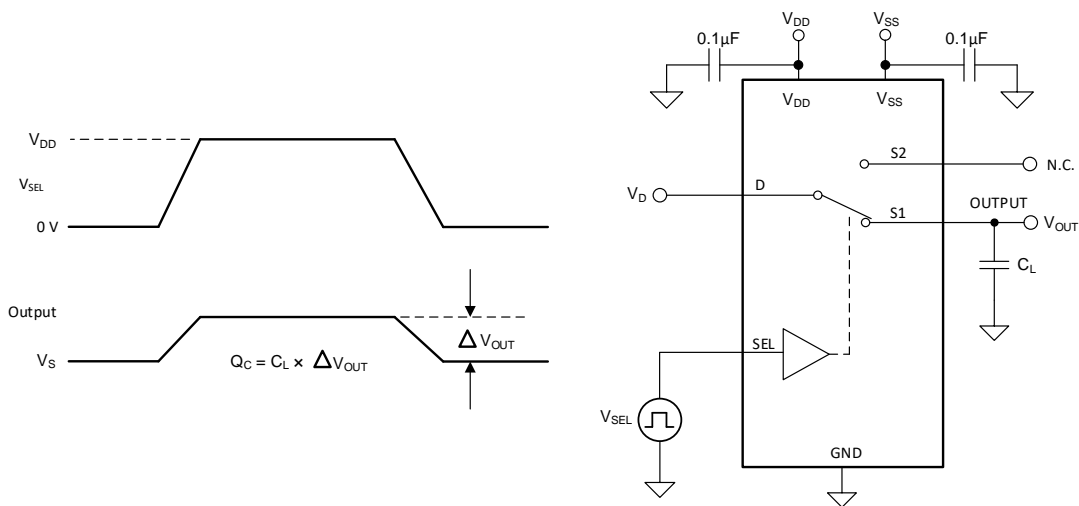

Figure 12. Charge-Injection Measurement Setup
The TMUX1247 has a transmission-gate topology. Any mismatch in capacitance between the NMOS and PMOS transistors results in a charge injected into the drain or source during the falling or rising edge of the gate signal. The amount of charge injected into the source or drain of the device is known as charge injection, and is denoted by the symbol  $Q_C$ . Figure 12 shows the setup used to measure charge injection from Drain (D) to Source (Sx).